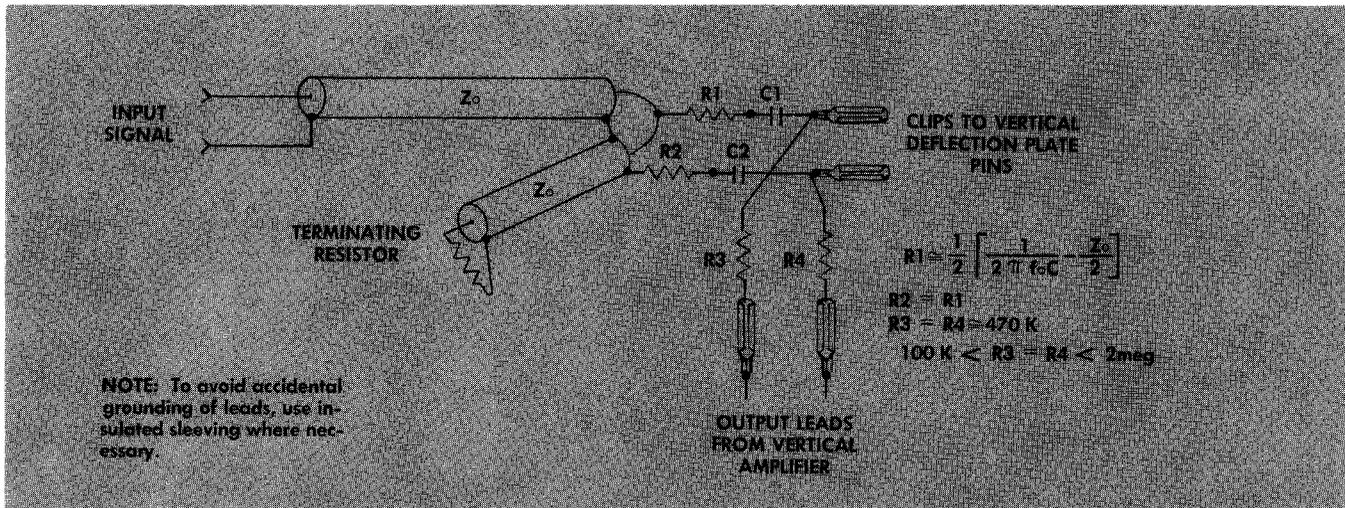

Fig. 3-8. Detailed method of ac-coupling the signal directly to the vertical deflection plates.
A typical circuit for ac-coupling directly to the vertical deflection plates is shown in Fig. 3-8. This circuit permits the internal vertical amplifier of the oscilloscope to be bypassed, but still allows the normal dc operating and positioning voltages to be applied to the deflection plates from the internal vertical amplifier. However, when using this circuit, you must use a high-quality external delay line
Only approximate values for two of the parts are given. The values of these and all other parts depend upon the crt, cable impedance, and lead lengths. Later on, some setups employing a 540-Series Oscilloscope are illustrated and described to show how optimum results were obtained by modifying the circuit shown in Fig. 3-8 to suit the specific application.
To find the resonant frequency ( $f_0$ ) of the lead inductance and the deflection plate capacitance (C) for use in the equation shown in Fig. 3-8, use the method that follows. Turn off the oscilloscope power and disconnect the vertical amplifier output leads to the crt. Cut a wire loop which equals the total length of C1, C2, R1, R2, R3, R4. Substitute the wire loop for these components between the vertical deflection plate pins. Bring a grid-dip meter near the loop and measure the resonant frequency.
The value of R1 is found by solving the equation in Fig. 3-8. Make R2 the same value as R1.